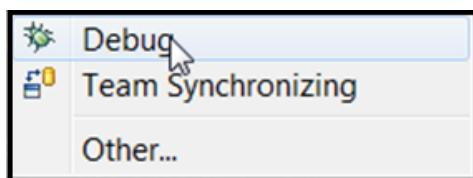

Figure 55: Debug Option
6. Open the Debug Perspective by clicking the button to the left of the button and selecting **Debug** from the menu (Figure 55).